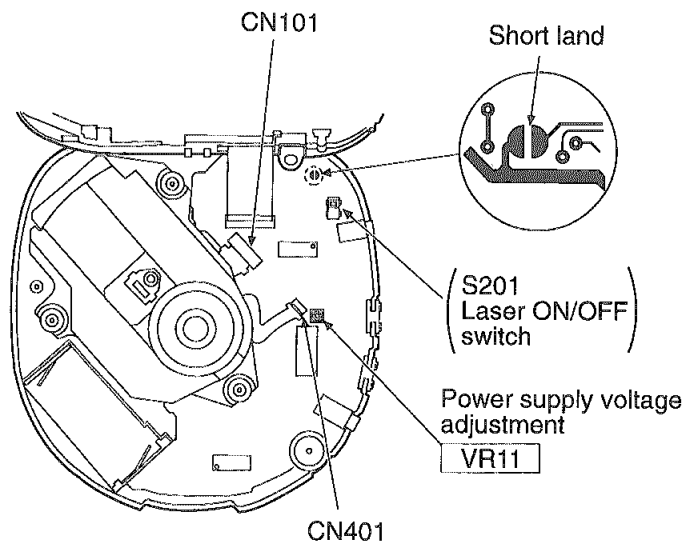

Fig. 3
2. Take care to connect CN101 and CN401. (as shown in Fig. 3)
Short-circuit the lands of the laser ON/OFF switch (SW201) by soldering them. It turns "ON" position. (Refer to below Fig. 3 or printed circuit board and wiring connection diagram for short land location on page 18.)
4. Adjust VR11 on the P.C.B. at $2.45 \pm 0.02V$ (EQ switch in "Normal" position), as shown in Fig. 3.